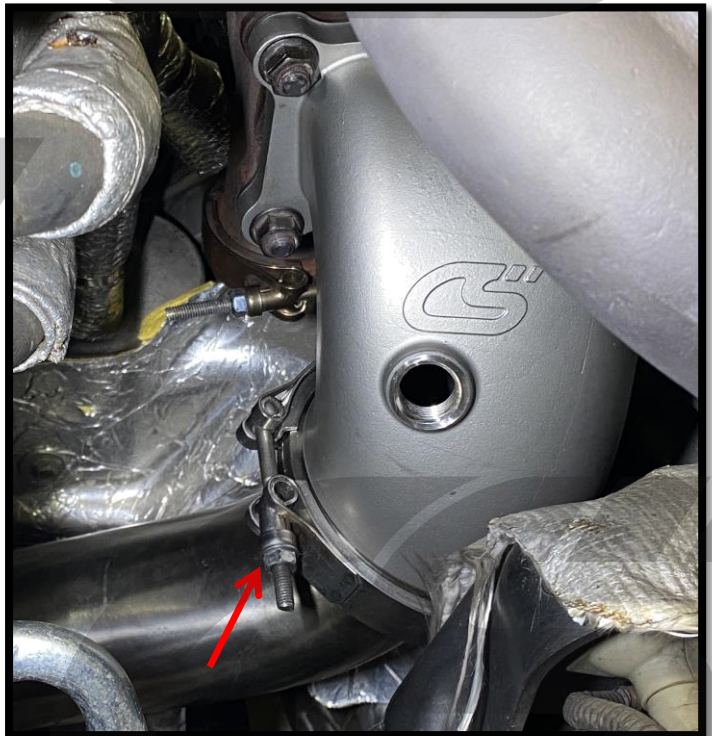

Figure 10h
k) Once happy with fitment, tighten the v-band clamp to **8-12ft-lbs** with a 10mm deep socket & ratchet. Shown tightened in **Figure 10h**.